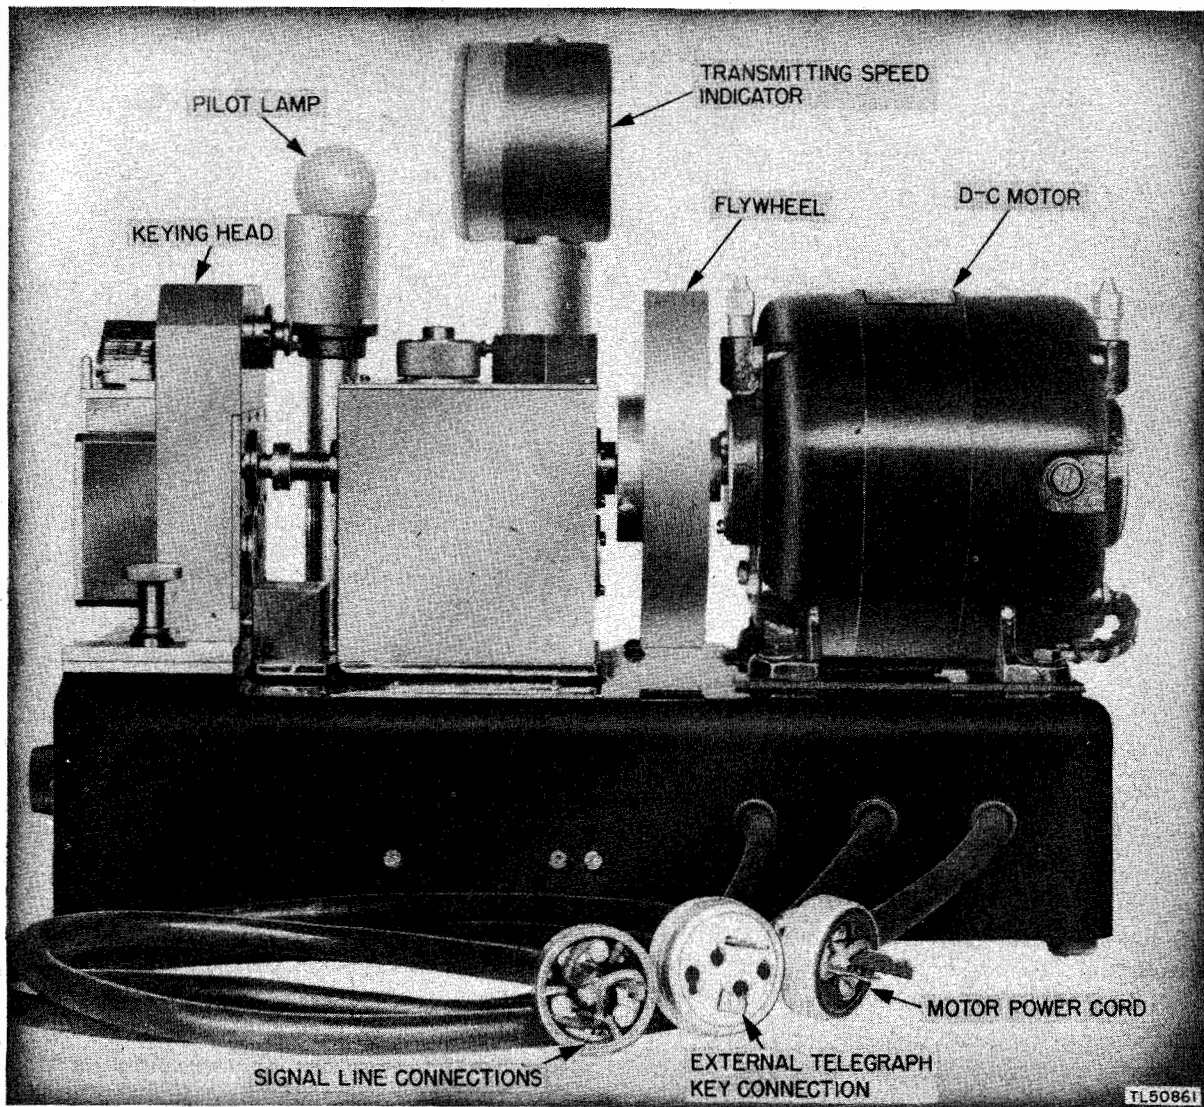

Figure 14. Keying head mounted on keying head drive, side view.
The keying head drive is powered by a 1/12-horsepower, 1,140 rpm, ball-bearing compound motor (fig. 14) which operates from a 110-volt, d-c power supply. The motor has a flywheel for stability. Power consumption is approximately 150 watts.
f. When the hand key is operated, the red pilot lamp (fig. 14) lights, indicating that the automatic keying head is no longer connected to the external signal circuit. The motor need not be stopped when hand keying. However, remove the perforated tape from the keying head during hand keying, because the message on the tape passing through the keying head during hand keying is not being transmitted. A few moments after the completion of hand keying, the red pilot lamp goes out, showing that the keying head is again connected to the external signal circuit. Reinsert the perforated transmitting tape into the keying head at a point approximately 12 inches before the point at which automatic transmission was interrupted. The repeated portion of the message permits the receiving operator to pick up the continuity of the text.